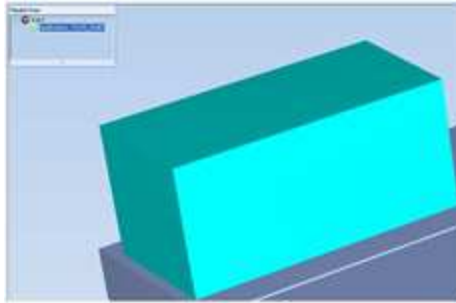

Figure 5-36 Model displayed with bounding box
- ☐ With a *Bounding Box* (see Figure 5-36 on page 5-31)